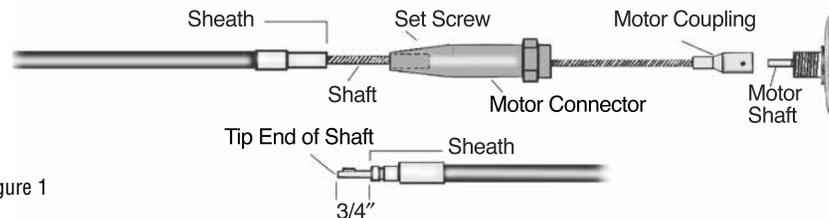

Figure 1
The flexible shaft should be cleaned and lubricated once every 100 hours of use. Expose the shaft by removing the handpiece and then the sheath by loosening the set screw in the motor connector (see Figure 1) and sliding it off the shaft. Apply a light film of Foredom flexible shaft grease (MS10006) along the entire length of the shaft after wiping off the old grease with a piece of cloth. Replace the sheath by sliding it over the shaft and tightening the set screw. Be sure to follow the Adjustment Instructions below.
1. Remove the motor connector. Left hand thread, turn right. (See Figure 1)
2. Loosen the set screw on the old flexible shaft motor coupling and slide the shaft coupling off the motor shaft. (See Figure 1.) Tighten the set screw of the new shaft onto the flat on the motor shaft.